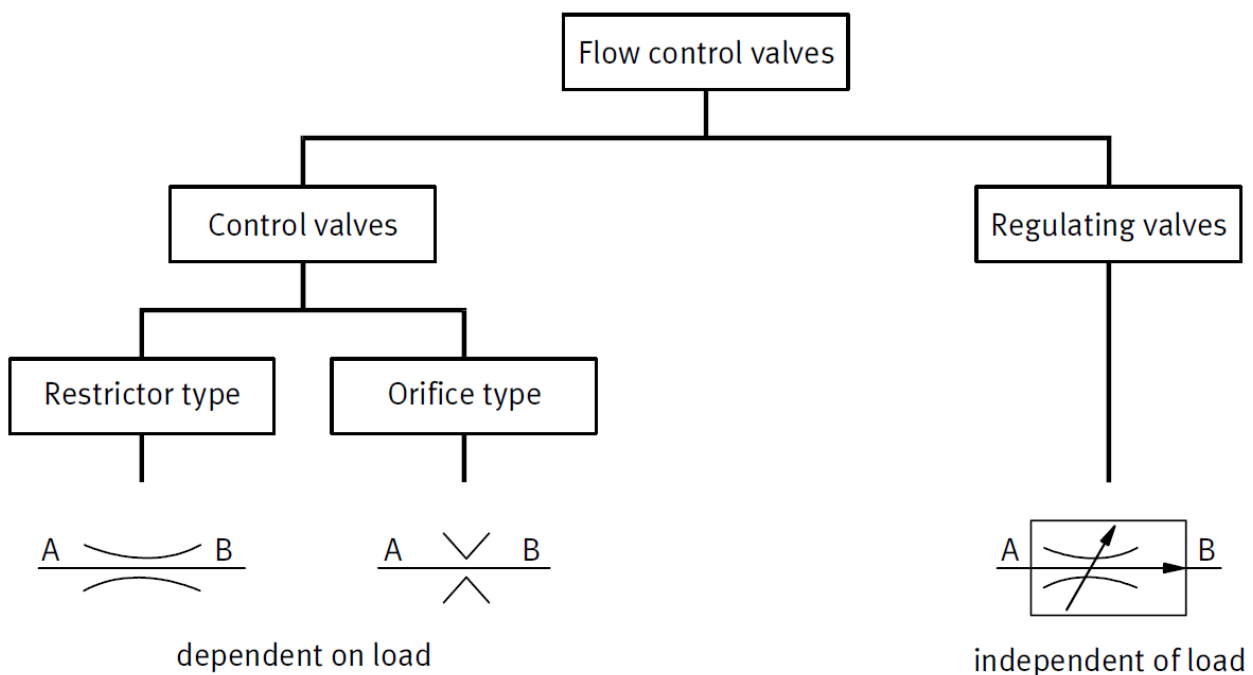

FIG 1.
B. On the basis of their controlling or regulating function, flow control valves are classified as either: (Fig 1)